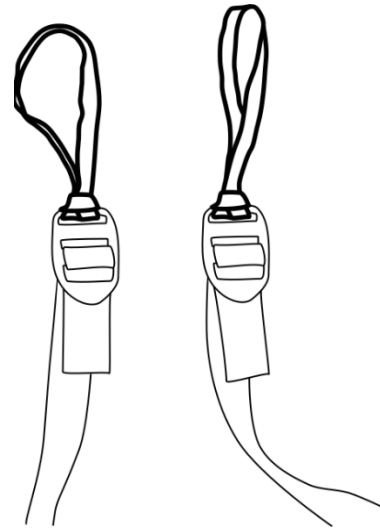

Figure 13
2. Stick one end of the elastic band through the loop at the other end and pull tight (Fig. 13).